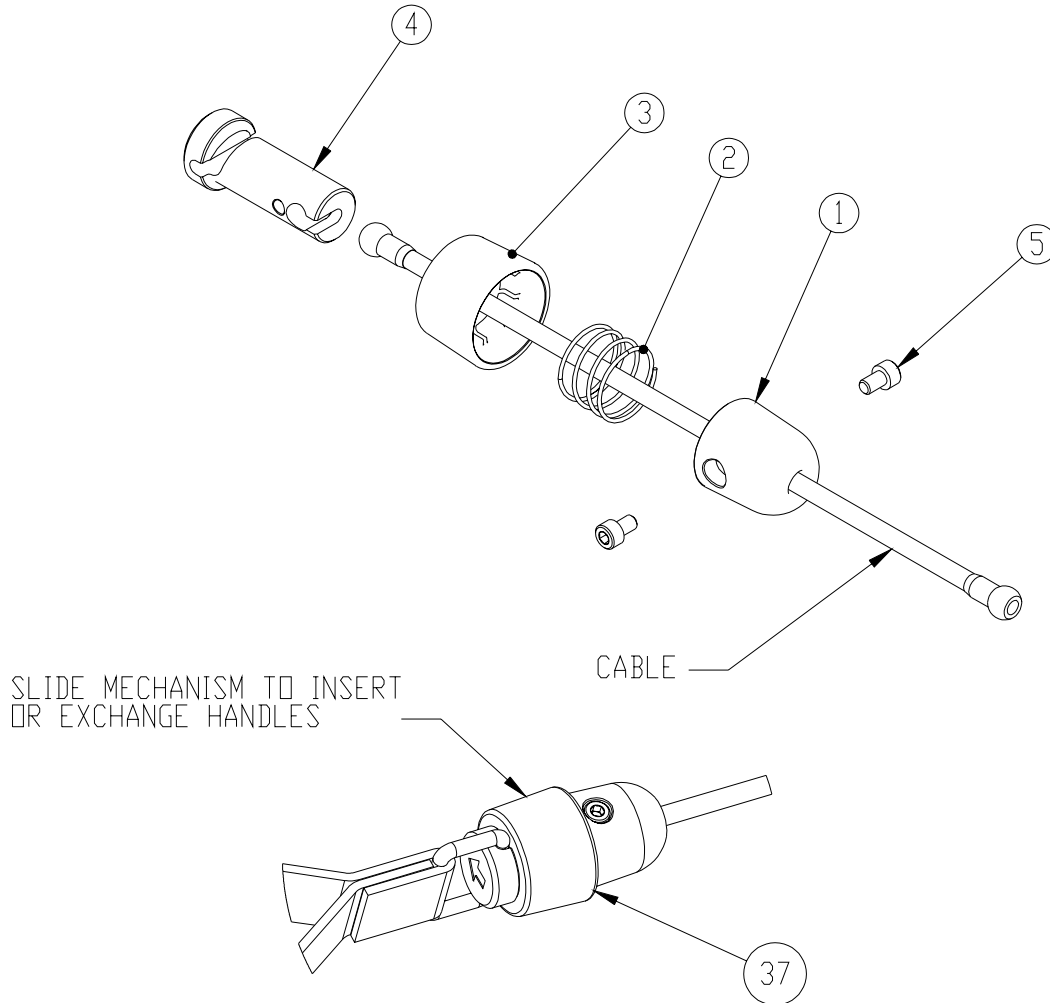

FIGURE 7
**SEE PAGE 13, FIGURE 7 FOR ADDITIONAL PART NUMBERS
MUST DISASSEMBLE ONE END OF CABLE AND REASSEMBLE AFTER ROUTING (SEE FIG 7 PAGE 14)
MUST DISASSEMBLE ONE END OF CABLE AND REASSEMBLY AFTER ROUTING (SEE FIG 7 PAGE 14)